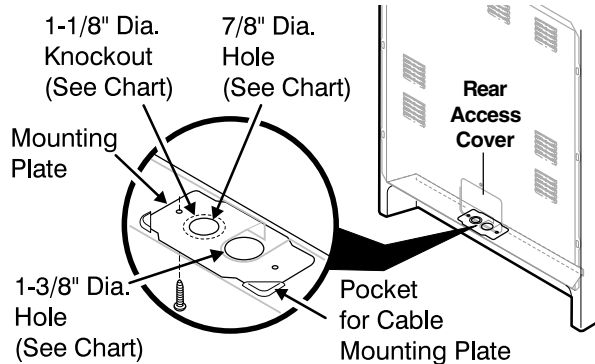

Fig. 9
See Range Connection Opening Size Chart (Figs. 9 & 10) for cord kit ampere rating information. Terminals on end of wires must be either closed loop or open-end spade lugs with upturned ends.
The Rear Access Cover must be removed (Fig 9). To remove, loosen center screw (one screw) and remove cover. The terminal block will then be accessible.
**NOTE:** Range is shipped from factory with 1-3/8" dia. hole as shown. To use either 7/8" dia. hole or 1-1/8" dia. knockouts refer to Fig. 9.
- Follow the manufacturer's installation instructions supplied with the strain relief and install (Also see Figs. 9, 10 & 11).
- Make sure all screws are tightened securely and replace the rear access cover (See Fig. 9).
1. Follow the manufacturer's installation instructions supplied with the strain relief and install (Also see Figs. 9, 10 & 11).
3. Make sure all connections are tightened securely and replace the rear access cover (See Fig. 9).